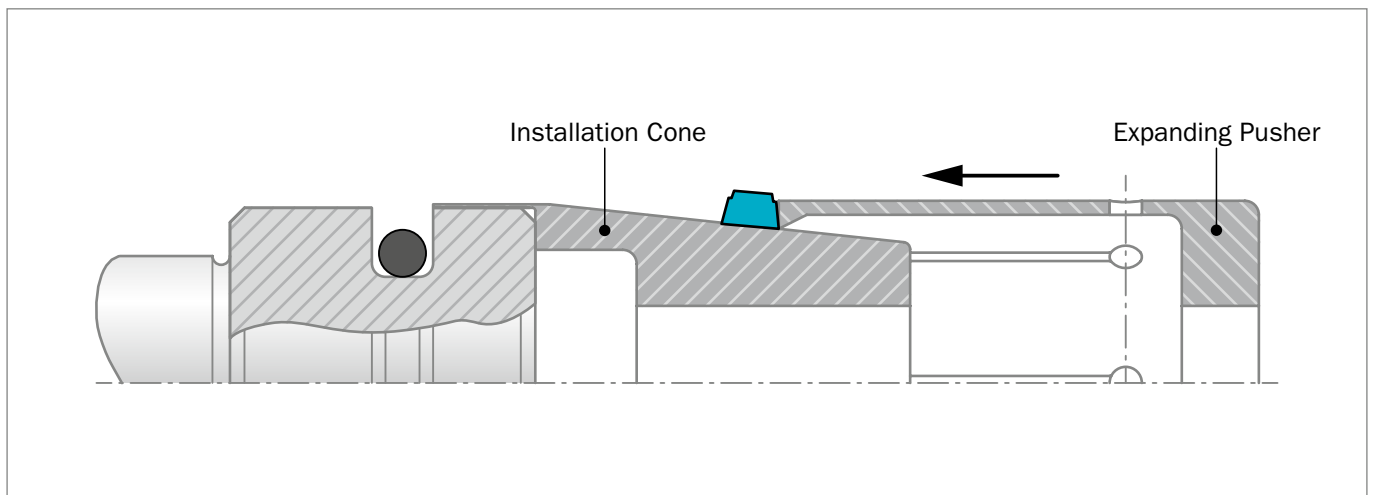
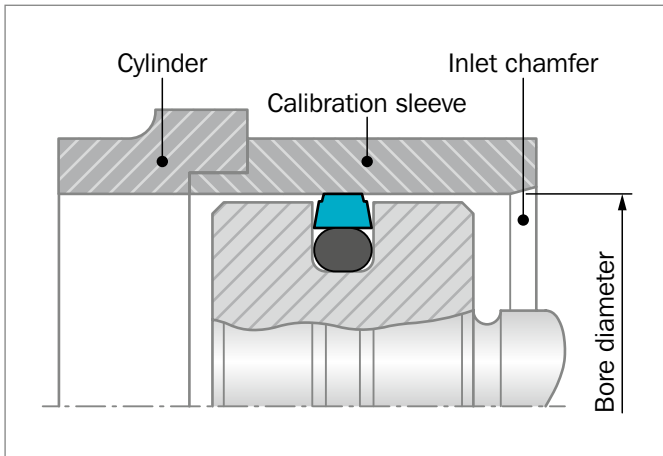

Figure 98: Expanding the Turcon® or Zurcon® sealing element using an expanding sleeve over the installation cone
Figure 100: Sizing the sealing element with calibration sleeve
- Ensure the cylinder tube has a lead-in chamfer; if not, use a calibration sleeve, see Figure 100.
The sequence of installation is illustrated in Figure 98 to Figure 100. Note, however, that the installation of Turcon® seal elements should be performed quickly in order to ensure optimum recovery of the seal ring.
The same installation procedure for piston Glyd Ring® may be used for AQ-Seal® and AQ-Seal® 5 see pages 247 to 249 except for AQ-Seal® 5, which uses different groove sizes. However, the Quad-Ring® or Bean Seal should not be fitted until AQ-Seal® or AQ-Seal® 5 have been calibrated - see Figure 100.